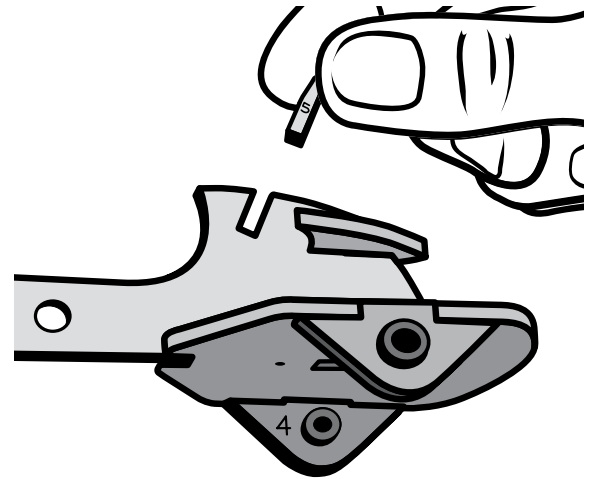

Figure 7
6. Glue Part 5, which is very small, into the notch that is on top of the racer as shown (Figure 7).